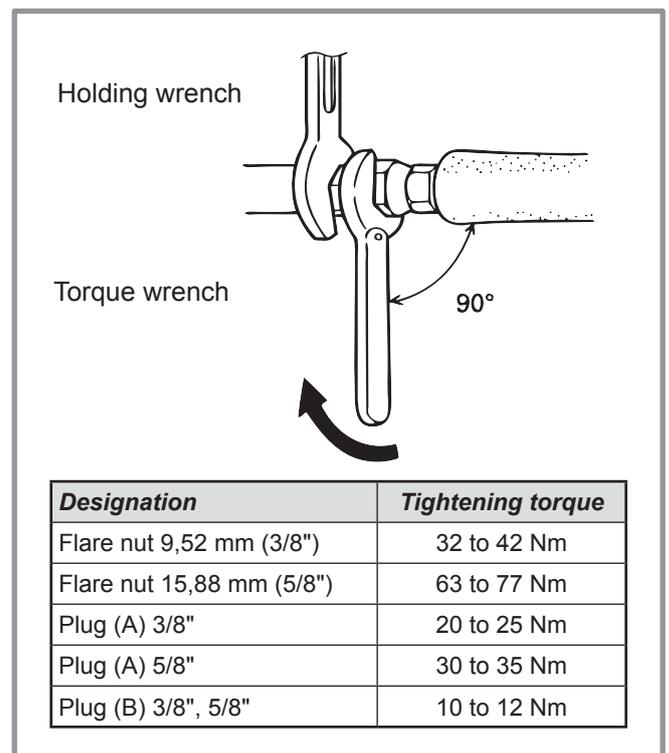

figure 18 - Tightening torque
- Remove the access plugs (A) from the valve controls.
- Refit the 2 original caps (be sure they are clean) and tighten them to the recommended tightening torque (figure 18, page 17). The sealing is performed in the caps only metal to metal.